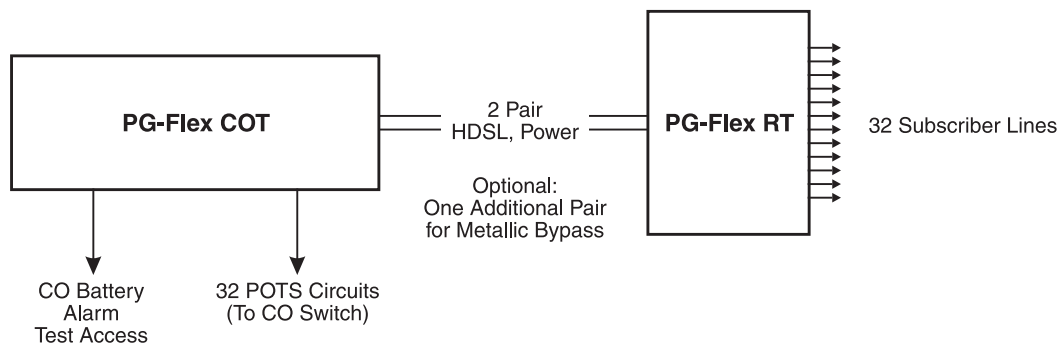

Figure 2. Typical PG-Flex Configuration
- 4.2 System Flex Configuration.** A PG-Flex system, shown in Figure 2, consists of: